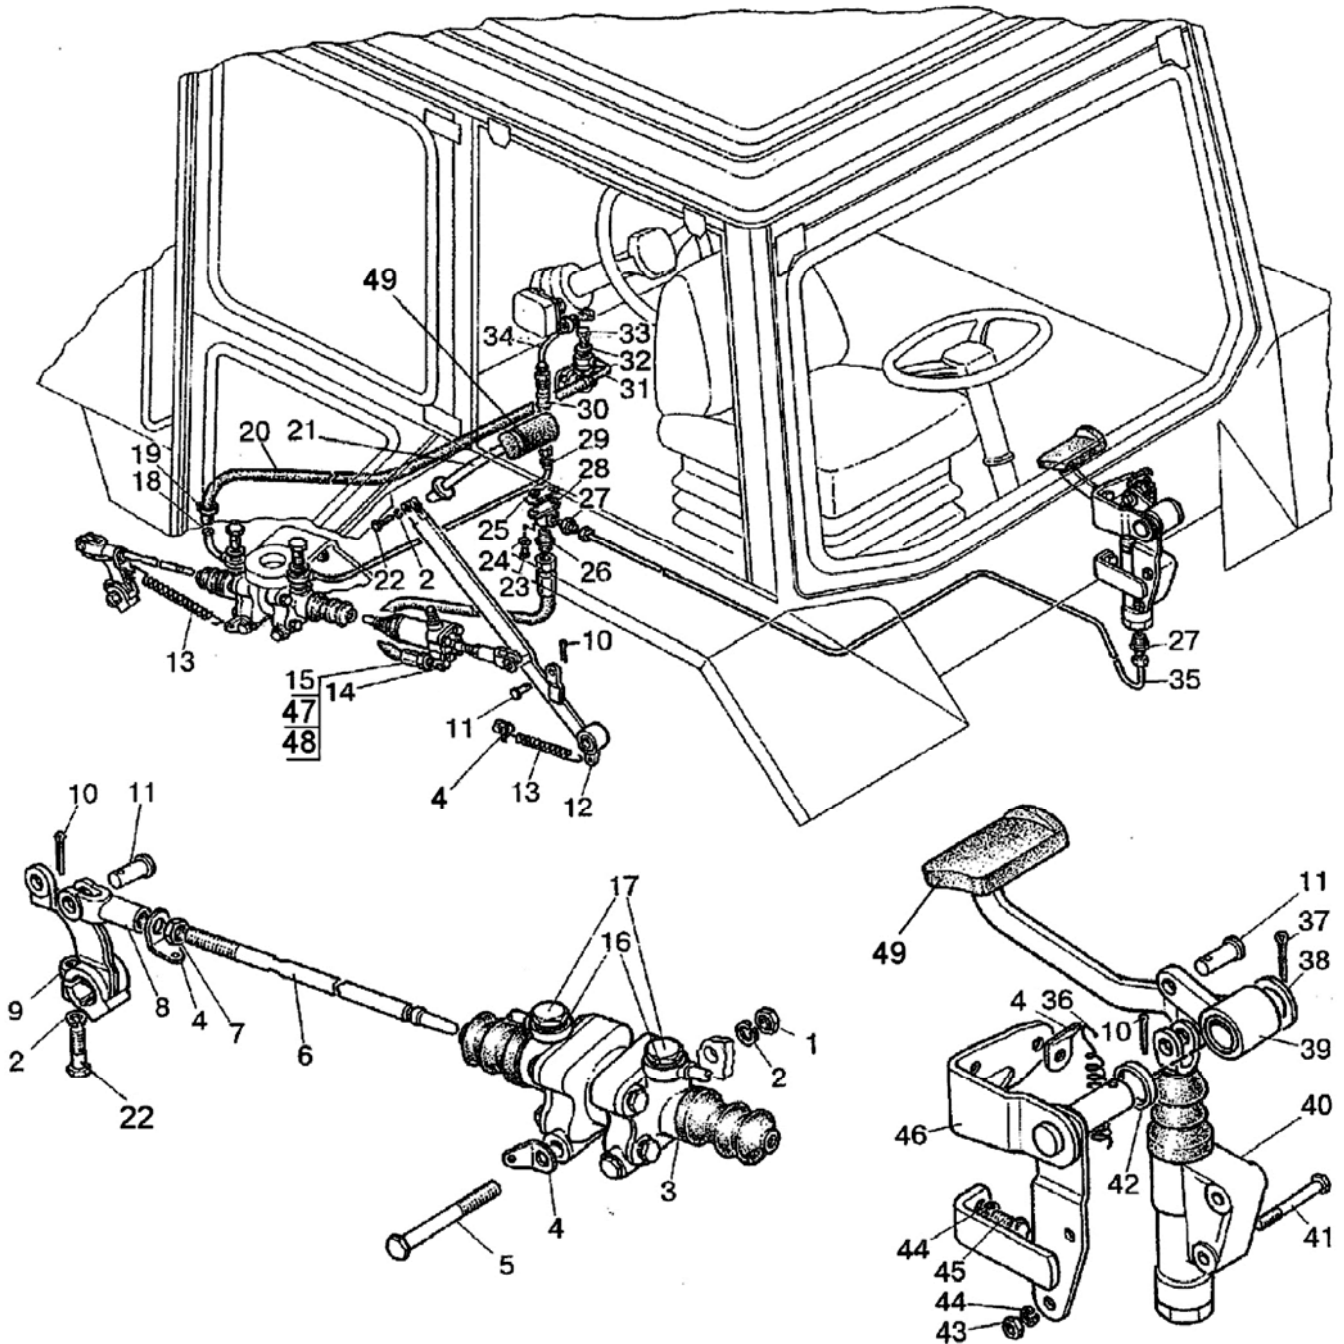

Figure 4.8 Clutch control
Observe the following sequence of disassembly of clutch control units (Figure 4.8):
- 3.1) keep pressing pedal 39 (Figure 4.8) until fluid is released from hydraulic system on reversal;
- 1) disconnect pipeline 35, flexible sleeve 15 (Figure 4.8) by unscrewing cap nuts;